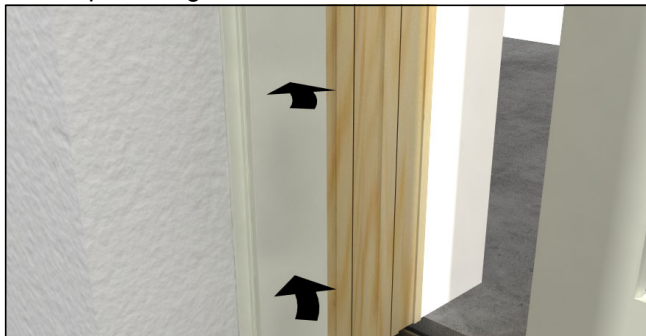

Figure 51
12. Install side jamb exterior stops by pressing or tapping them into place with a rubber mallet. Secure clad stops into place with #8x3/4" truss head screws in pre drilled holes and wood stops with finish nails. Blind nail through groove in part stop. See figure 51.